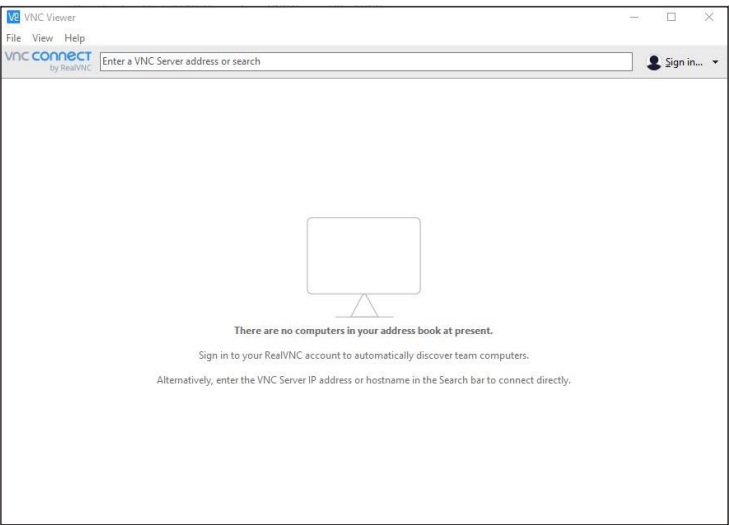

Figure 20. Open VNC Viewer on computer
- 2. Start the VNC Viewer (Figure 20).